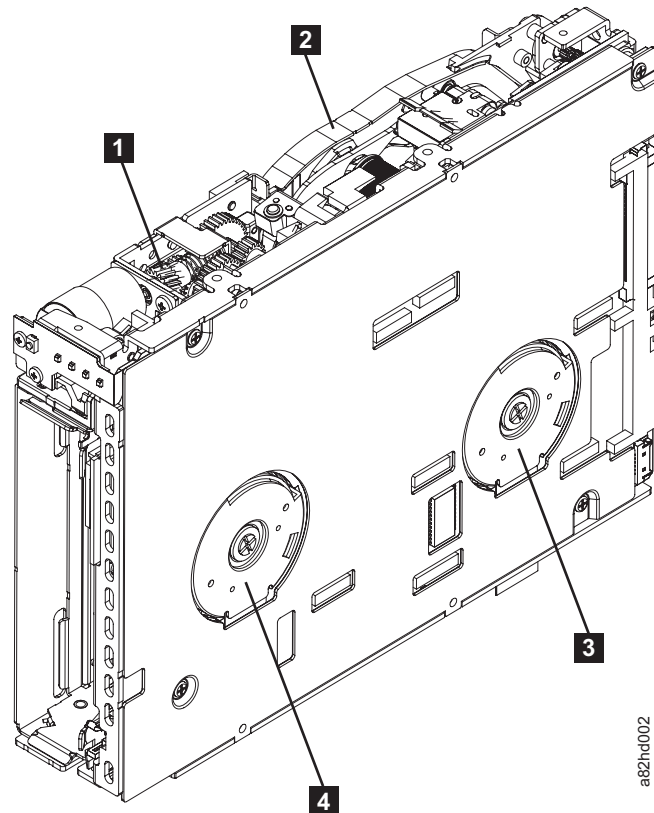

Figure C-7. Rewinding tape into cartridge
3. Turn the supply reel ( **4** in Figure C-7) clockwise.
4. Continue spooling into the cartridge until the tape is taut and remains within the flanges of the tape guiding rollers. turn the supply reel ( **4** in Figure C-7) 10 turns. Ensure that you do not stretch the tape.